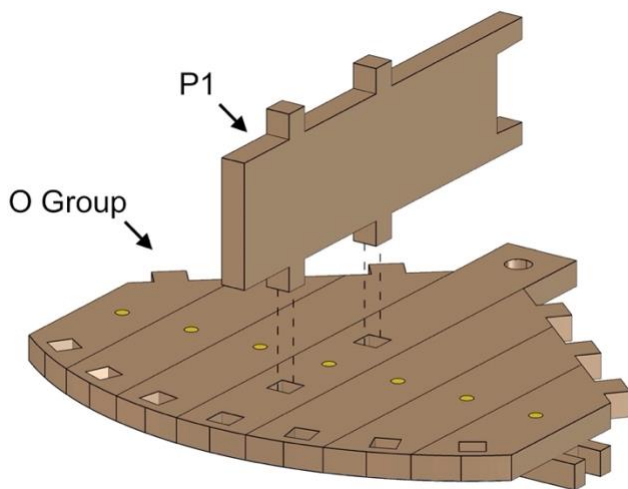

Fig. 75
- Align parts exactly as shown in Fig. 75.